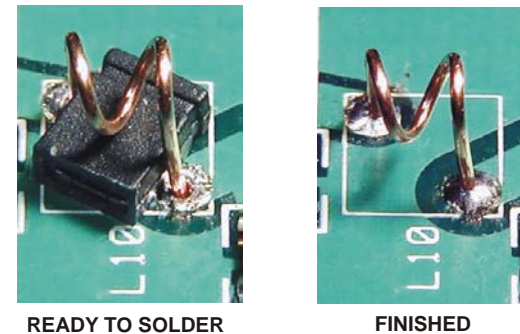

Figure 35. Installing L10.
- Position the coil in the pads for L10 in the upper left quadrant as shown in Figure 35.